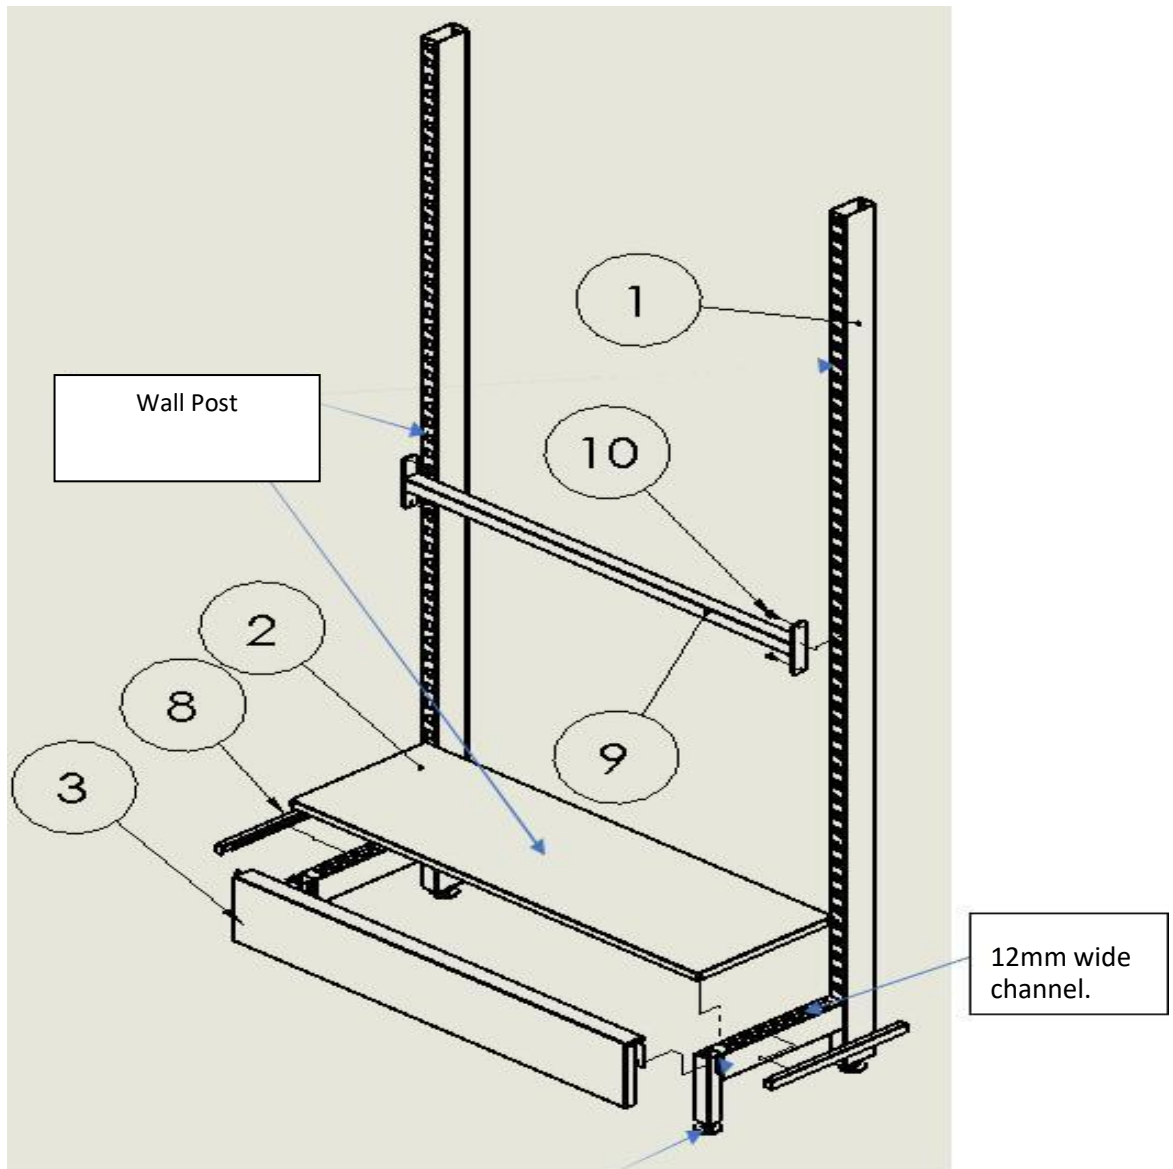

Figure 2
- 2 Space the left and right legs (item 1) approximately 900 mm apart.
- 3 Insert the kicker panel (item 3) into the vertical slots located on the inside of the left and right legs (see Fig 2). Ensure tab is fully engaged.